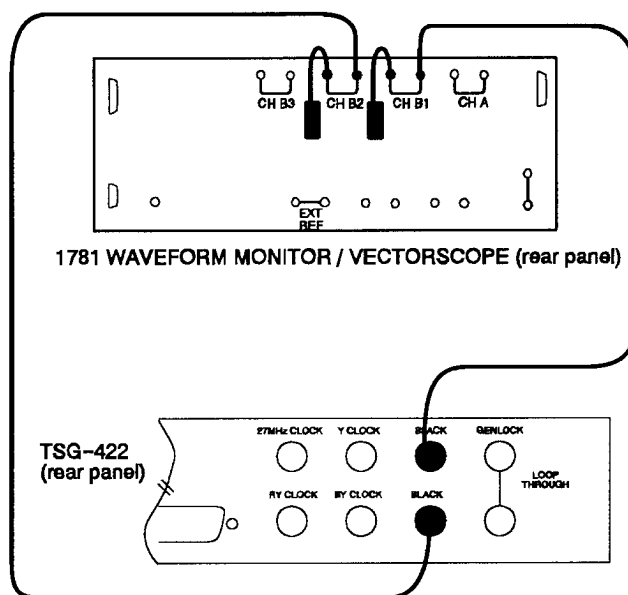

Fig. 5-9. Setup to check the Black Burst Outputs.
- a. Connect the equipment as shown in Fig. 5-9.
- a. Connect the test equipment as shown in Fig. 5-9.